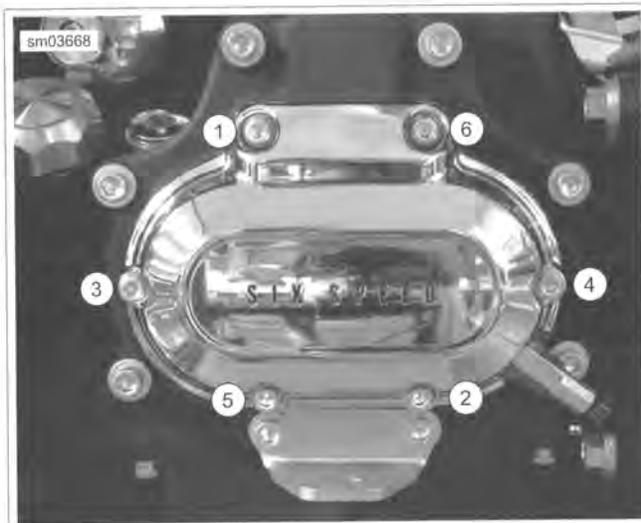

Figure 6-3. Clutch Release Cover Torque Sequence (Short Screws at Locations 1 and 6)
4. See Figure 6-3. Remove six screws securing the clutch release cover. Remove the clutch release cover. Discard the gasket.
See Figure 6-3. Clutch release cover screws in positions (1) and (6) are shorter than the others.
7. See Figure 6-3. Install clutch release cover. Tighten to 132-156 **in-lbs** (14.9-17.6 Nm) in sequence shown.